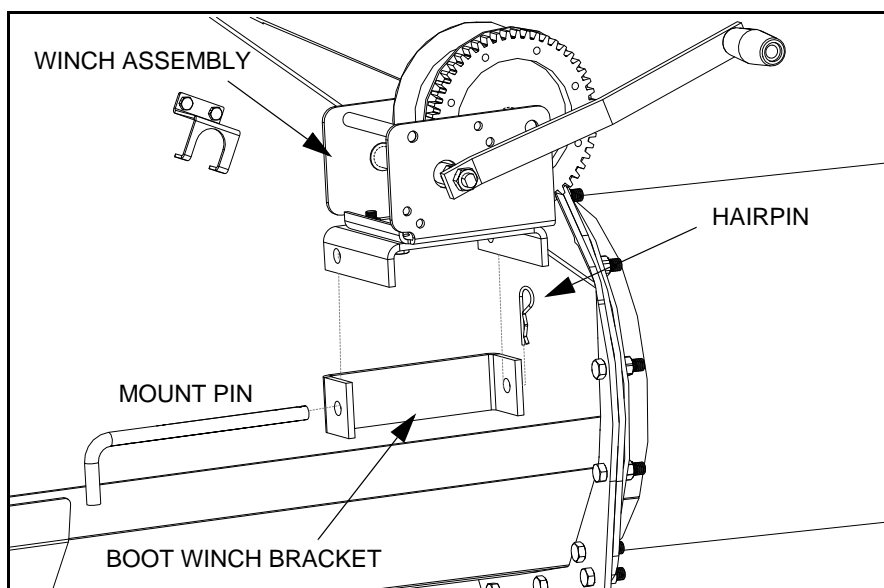

Figure 3.38 Installing the Manual Winch to on the Boot
4. Install winch and winch bracket assembly to auger boot (opposite to side of hopper operation) with one mount pin and a hairpin (Figure 3.38).